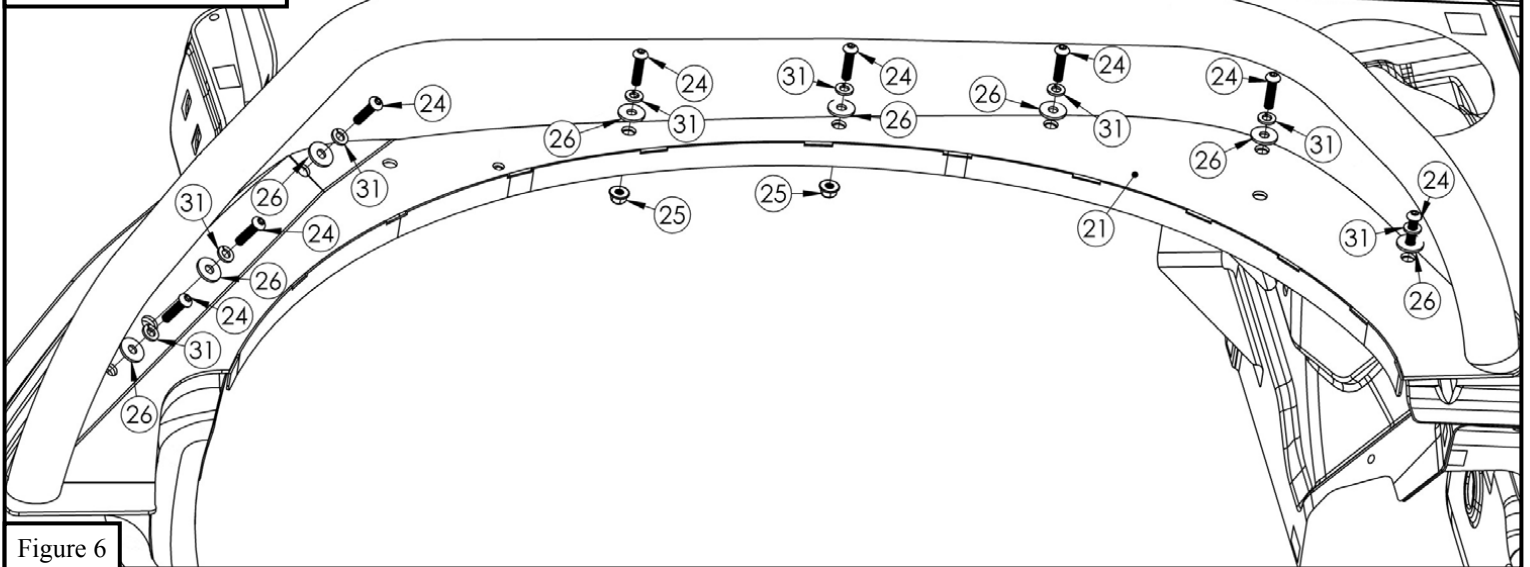

Figure 6
7. Align Rear Fender with the vehicles fender area and loosely secure using the provided M6 hardware. Refer to **Figure 6**.